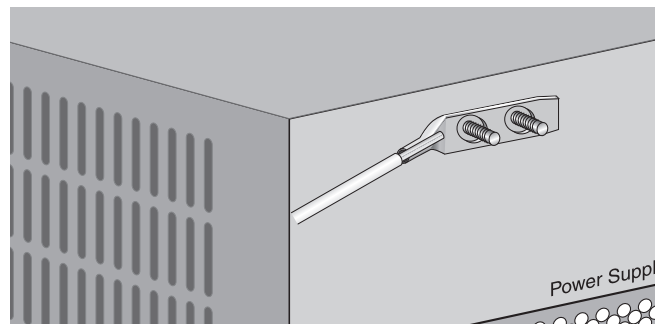

Figure 4. Position of the Ground Lug on the Studs
2. Place the ground lug on the two studs located on the rear panel of the AT-MCR12 chassis, as shown in Figure 4.